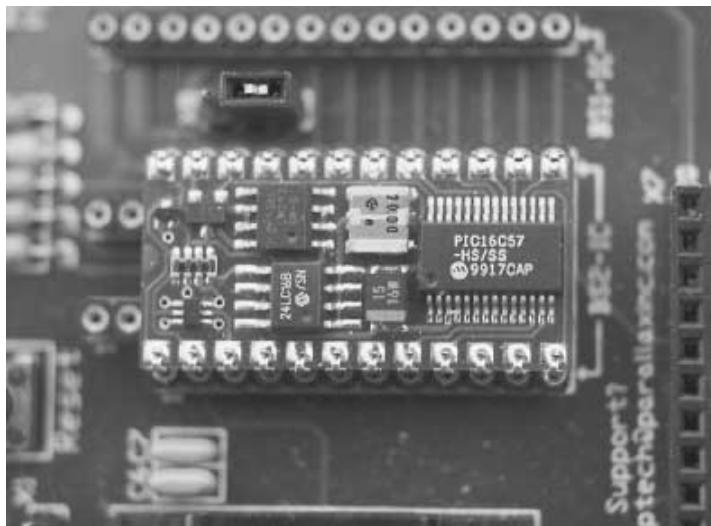

FIGURE 31.2 The Basic Stamp II module, containing microcontroller, voltage regulator, resonator, and EEPROM.
- **BSII Module.** The Basic Stamp module (see Fig. 31.2) contains the actual microcontroller chip as well as other support circuitry. All are mounted on a small printed circuit board that is the same general shape as a 24-pin IC. In fact, the BSII is designed to plug into a 24-pin IC socket. The BSII module contains the microcontroller that holds the PBASIC interpreter, a 5-volt regulator, a resonator (required for the microcontroller), and a serial EEPROM chip.